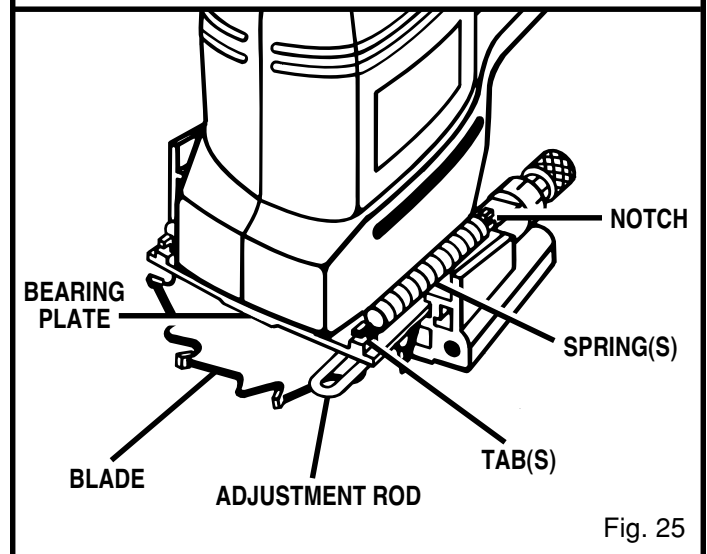

Fig. 25
6. Using a pair of needle nose pliers, stretch and release springs from tabs on bearing plate. See Figure 25.
17. Replace rear base assembly. Position adjustment rod in its proper place as shown in figure 25.